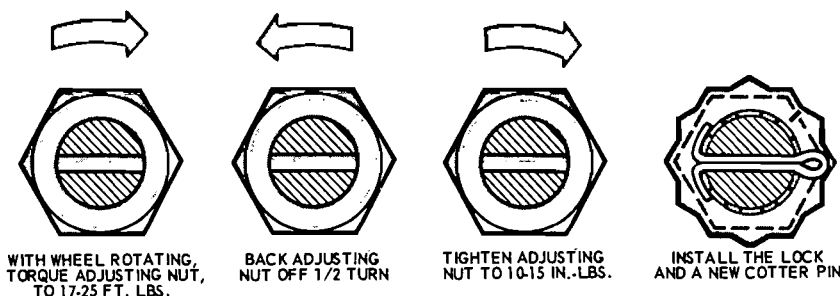

FIG. 1 Front Wheel Bearing Adjustment
4. While rotating the wheel, hub, and drum assembly, torque the adjusting nut to 17-25 ft-lbs to seat the bearings (Fig. 1).
5. While rotating the wheel, hub, and rotor assembly, torque the adjusting nut to 17-25 ft-lbs to seat the bearings (Fig. 1).